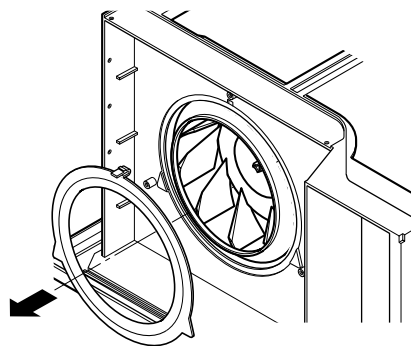

Figure 21
5. Remove the clamp which secures the blower with plier. (See Fig. 21)